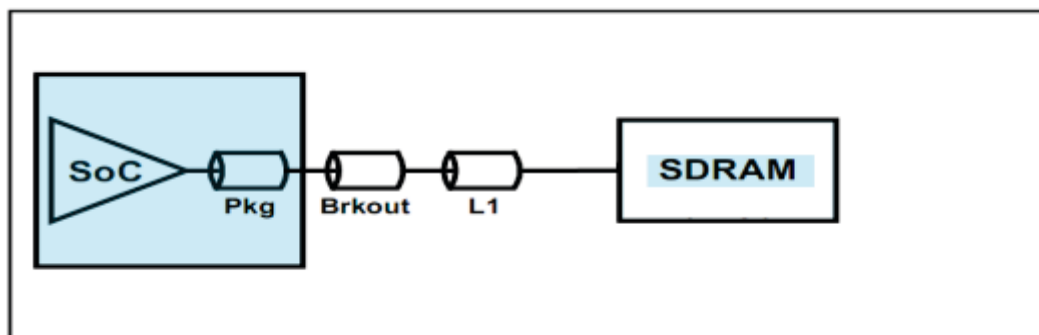
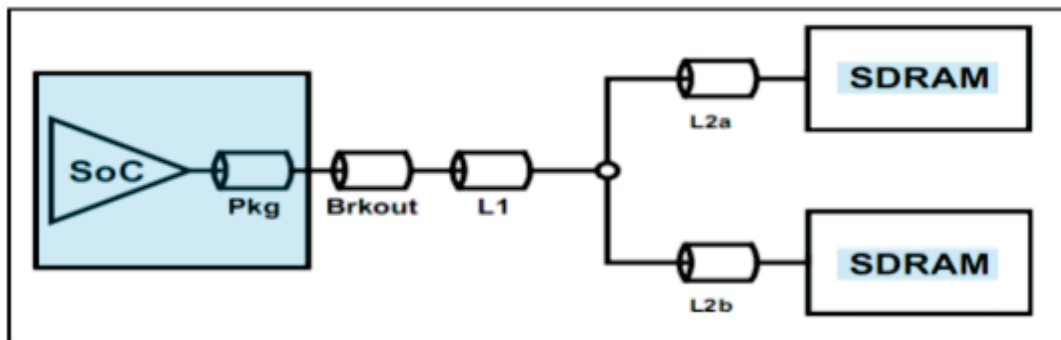

Figure 4-16 LPDDR4 CSn signals equivalent circuit
Figure 4-17 LPDDR4 Chip CKE signals equivalent circuit
LPDDR4 Chip Select (CSn) signals equivalent circuit is shown as Figure 4-16
LPDDR4 Chip CKE signals equivalent circuit is shown as Figure 4-17
- The CLK traces need to be shielded alone by GND traces. Shown as Figure 4-16 and Figure 4-17.